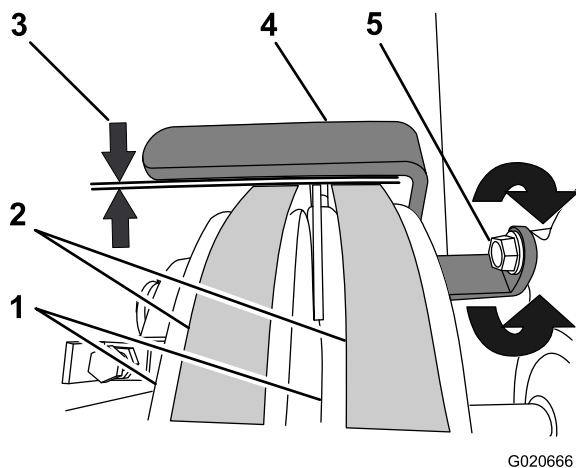

Figure 39
3. Check that the air gap between the belt guide and the belts is 2.5 to 4.0 mm (3/32 to 5/32 inch); refer to Figure 39.
- B. Rotate the belt guide up or down until there is an air gap of 2.5 to 4.0 mm (3/32 to 5/32 inch) between the guide and each belt (Figure 39).
- C. Tighten the nut that secures the belt guide to the motor (Figure 39).
- A. Loosen the nut that secures the belt guide to the motor (Figure 39).